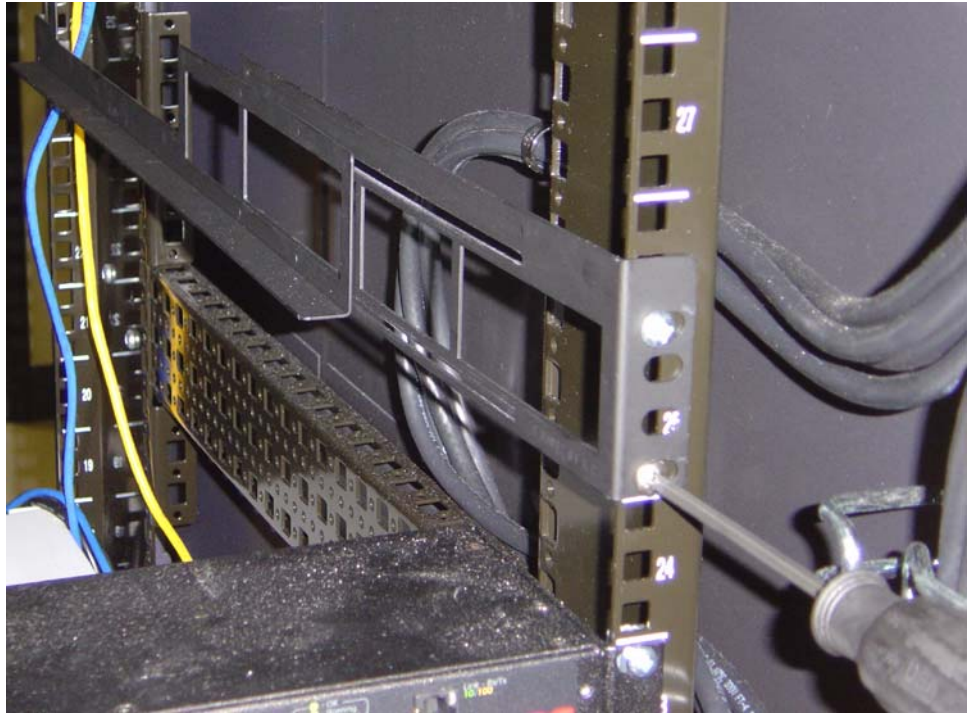

Figure 3-5: Attaching Rails from the Back
11. Screw the top and bottom of the back of the rails to the rack, as shown in Figure 3-5.